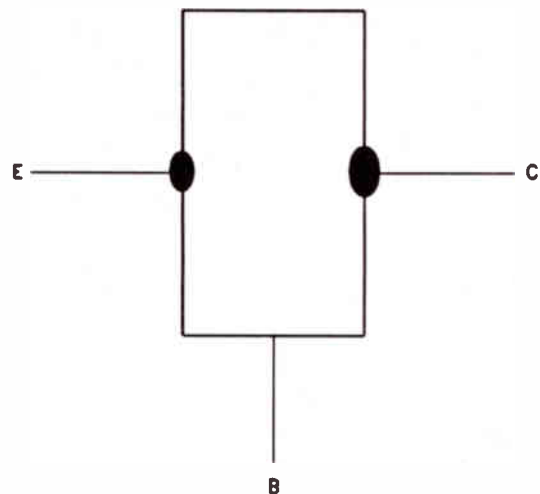
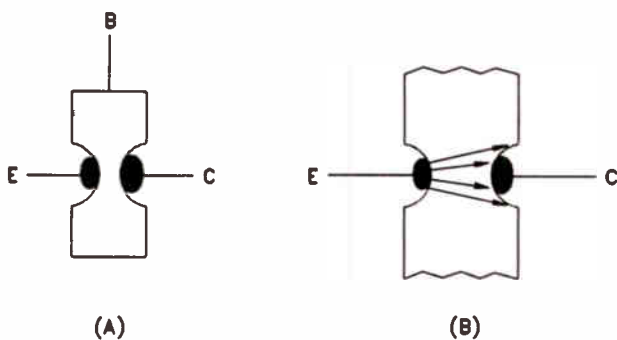

Figure 7. An alloy-junction transistor.
Figure 8. (A) Sketch of a surface-barrier transistor. (B) Hole movement across the base.
A pnp *alloy-junction transistor* is made by taking a small rectangular piece of n-type semiconductor material and fusing small dots of indium into it on opposite sides, as shown in Fig.7. This results in p-type material being formed at the points where the dots are fused into the wafer, making a pnp transistor.
The *surface-barrier transistor* is an alloy-junction transistor in which pits are etched into the silicon, as shown in Fig.8, before adding the impurities that form the emitter and collector. Surface-barrier transistors perform well at high frequencies.
Notice that in both Fig.7 and Fig.8 the collector is larger than the emitter. In Fig.8(B) we have shown the way in which the majority carriers spread out as they cross the base, traveling from the emitter to the collector.